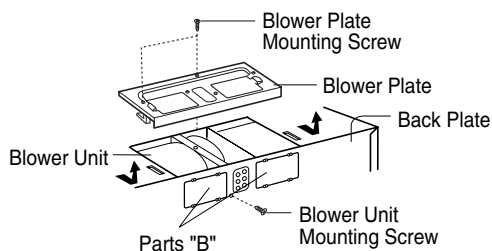

Figure 19
1. Remove one blower unit mounting screw and one or several blower plate mounting screw(s). Remove the blower plate from cabinet. See Figure 19.